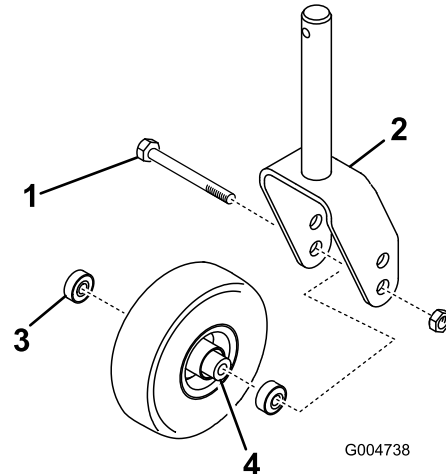
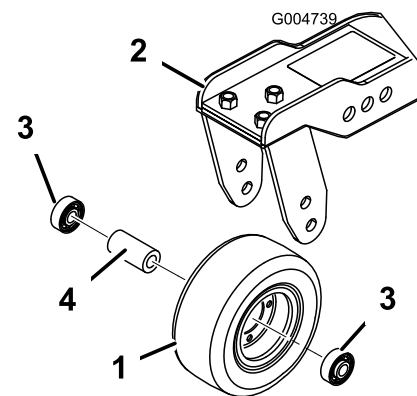

Figure 123
Figure 124
1. Remove the locknut from the bolt holding the caster-wheel assembly between the caster fork (Figure 123) or the caster-pivot arm (Figure 124).
2. Remove the bearing from the wheel hub and allow the bearing spacer to fall out (Figure 123 and Figure 124).